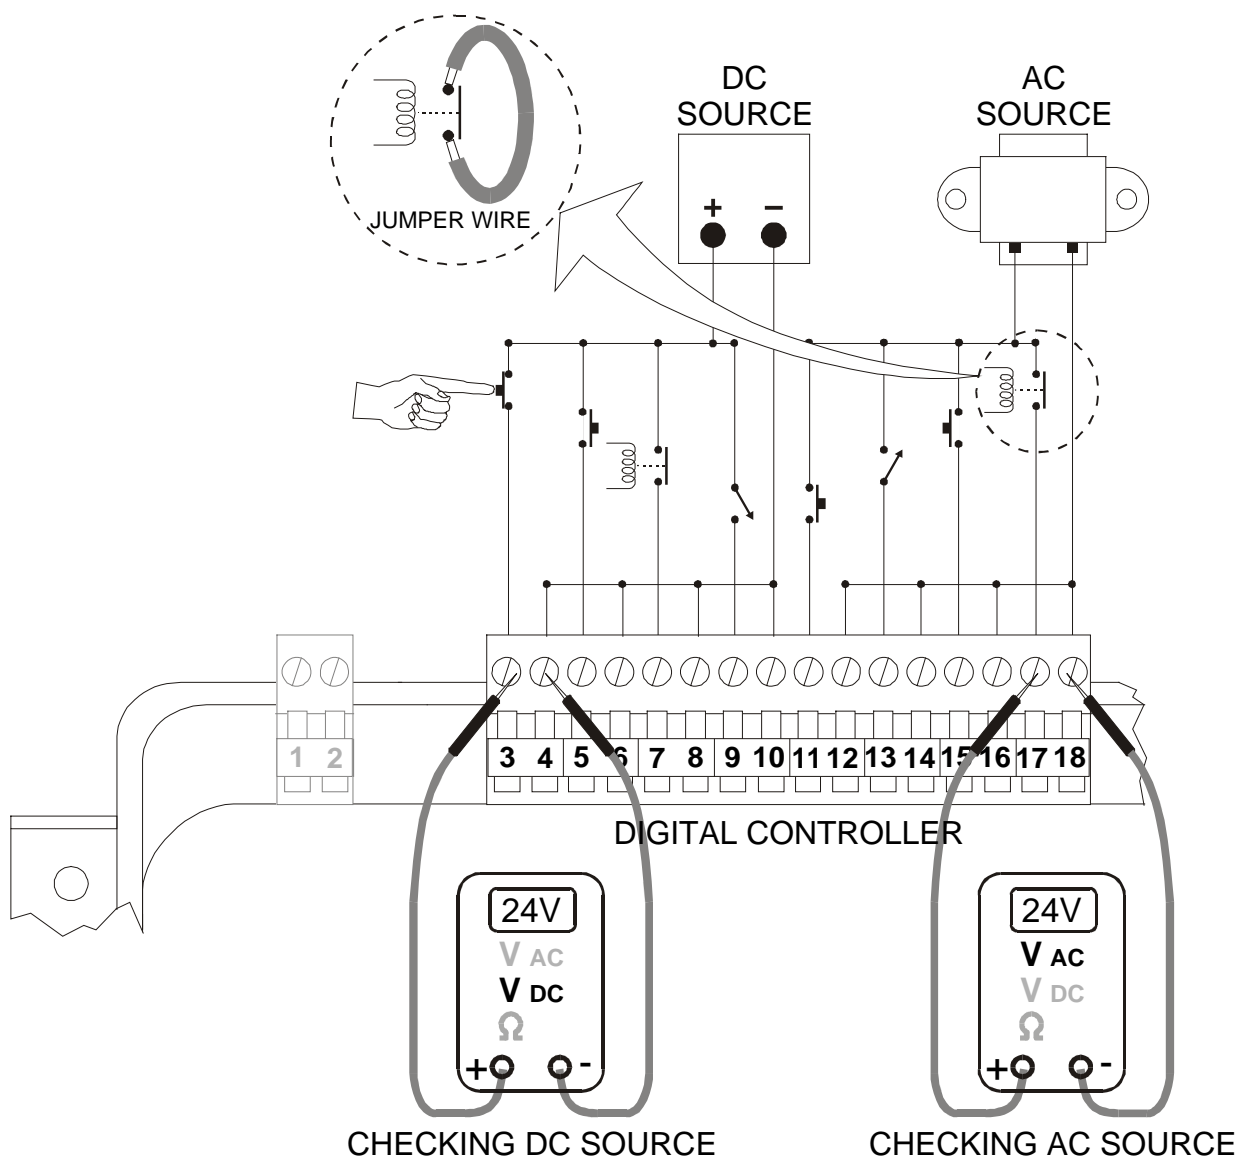

Figure 4-2. Checking Digital Input Wiring.
Figure 4-2 is a schematic representation of a typical Digital Controller installation containing AC- and DC-powered digital inputs and how the wiring can be checked using a digital voltmeter. Use Figure 4-2 for reference when performing the following procedures:
- e. With the voltmeter still connected, manually close the input contacts. If it is not possible to close the circuit manually, connect a jumper wire across the contacts at the switching device, as shown in Figure 4-2.